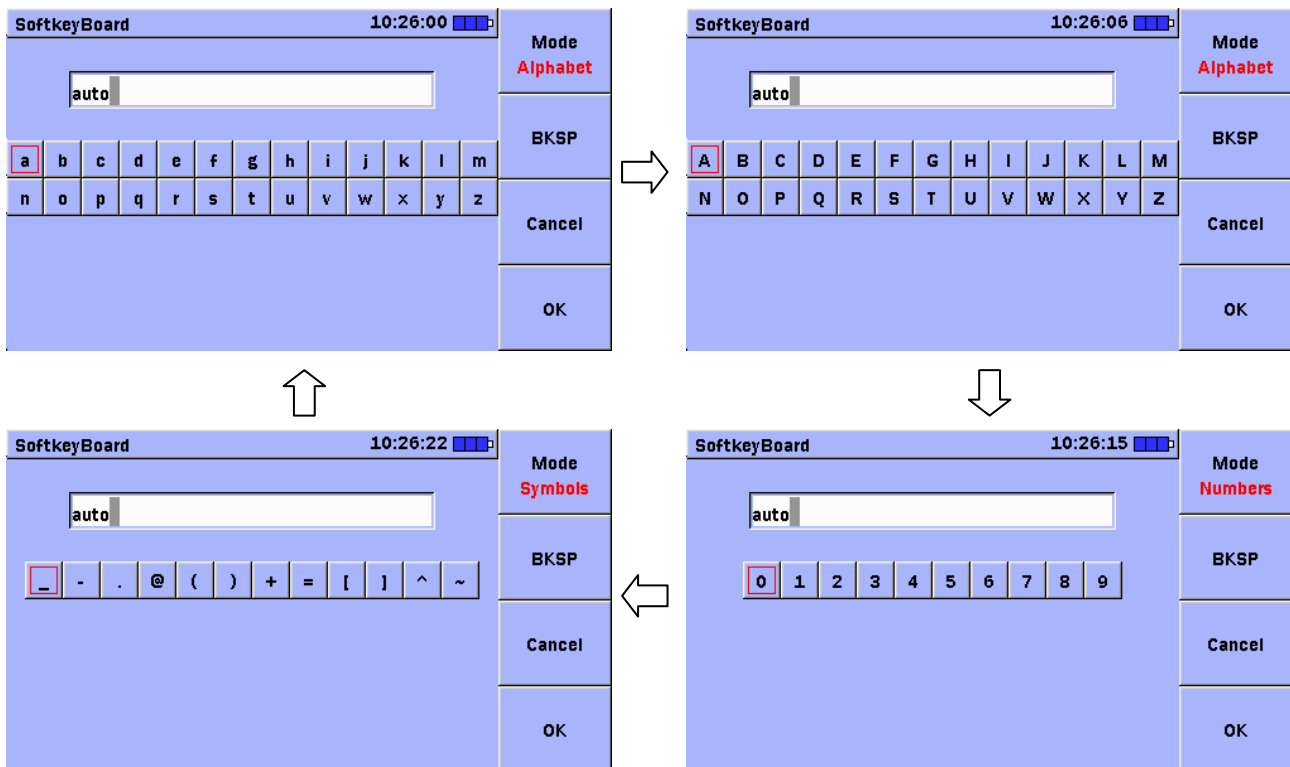

Figure 3.6-1 Input Character Transitions
2. Each press of **F1** switches the input character type. Select one from Alphabet, Numbers, and Symbols as shown in Figure 3.6-1. Press **F1** to select the type of character input. The current character type is displayed in **F1**.
6. When the name is completed, press **F4 (OK)**. Press **F3 (Cancel)** to cancel the input.